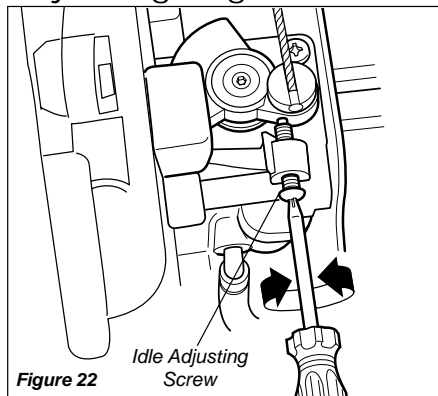

Figure 22
- If the attachment rotates when the engine is at idle, reduce the idle speed by turning the idle adjustment screw counter-clockwise. See Figure 22.